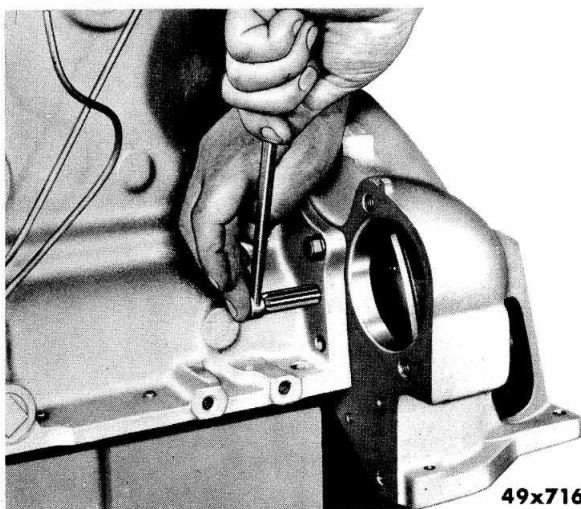

Fig. 19—Reaming Dowel Pin Holes, Using Tool C-860
If alignment of the housing is necessary, as described in Step (3), ream the dowel pin holes with tool C-860, as shown in Figure 19. Install .512 inch oversize dowel pins. Then complete the assembly of the clutch unit.